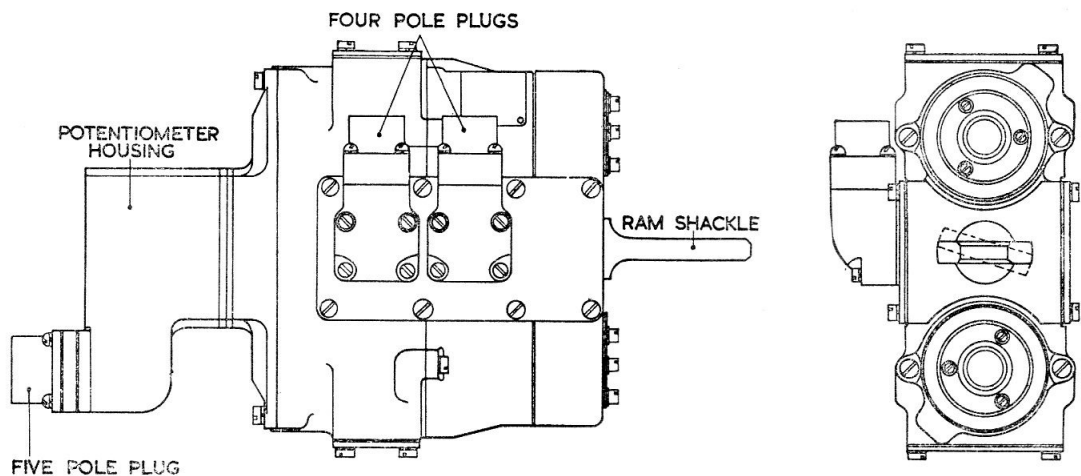

Fig. 1. Outline of Types A1704 and A1704A actuators
shackle has a 0.875 in. dia. clearance hole, to receive a universal bearing, and a 0.187 in. dia. hole for a locking device. The flats of the shackle for the A1704 lie in planes at right angles to the common plane of the motor axes, whilst the shackle of the A1704A is set 15 deg. clockwise (looking on the ram end) from this position, as shown dotted in fig. 1.
2. The potentiometer is a miniaturized desynn type for use with a standard desynn pattern indicator. It is housed in an extension to the ram housing (potentiometer housing, fig. 1), and is operated by the rotation of the screwshaft, which is transmitted to the potentiometer spindle through a single stage epicyclic reduction gear train. The potentiometer is permitted 300 deg. travel for full (2 in.) ram travel. Electrical connections to the potentiometer are made through a 5-pole plug (Ref. No. 5X/6016), set to one side of the actuator mounting surface.